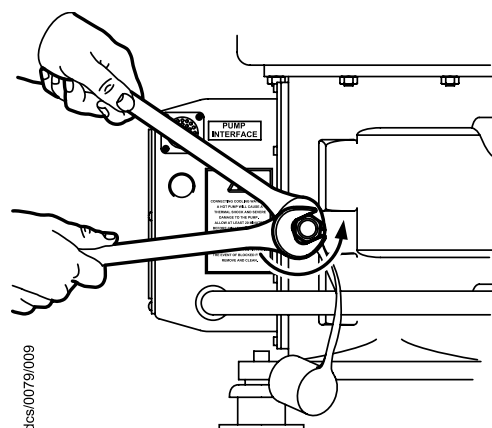

Figure 12 - Remove the filter inlet fitting
3. Carefully lever the filter out using a small flat headed screw driver (refer to Figure 12).